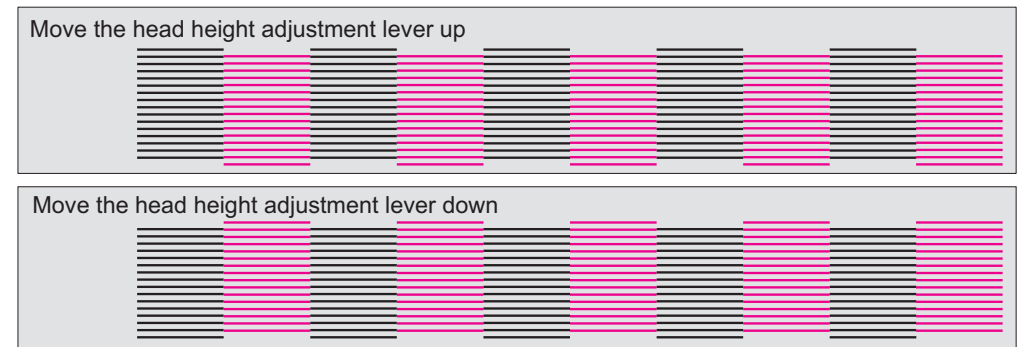

Figure 5-31. Tendency of Pattern Changes by Adjustment Lever
Printing pattern changes as following(figure5-31) by moving the adjustment lever up or down, as it is shown in the figure below.
- Step10. Refer to figure 5-31, and move the lever to appropriate direction after checking the lever position and tendency of pattern changes. Then, press Return key on the program again and execute printing.